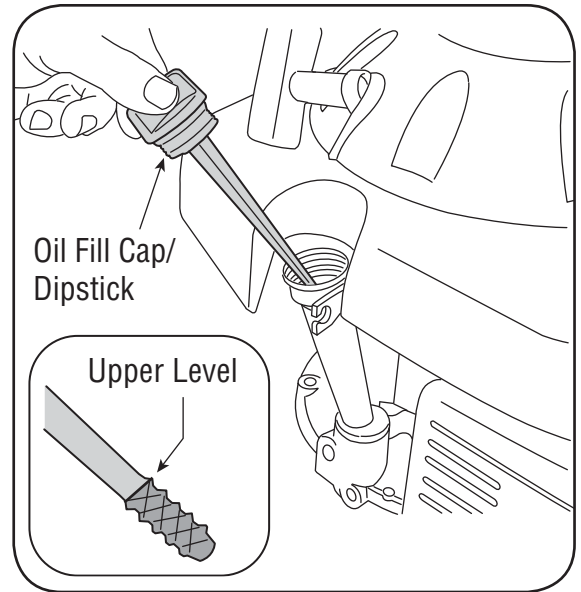

Figure 3-3
- Remove the oil filler cap and wipe the dipstick clean. See Figure 3-3.
3. If the level is low, slowly add oil to the upper limit on the dipstick. See Figure 3-3 inset.